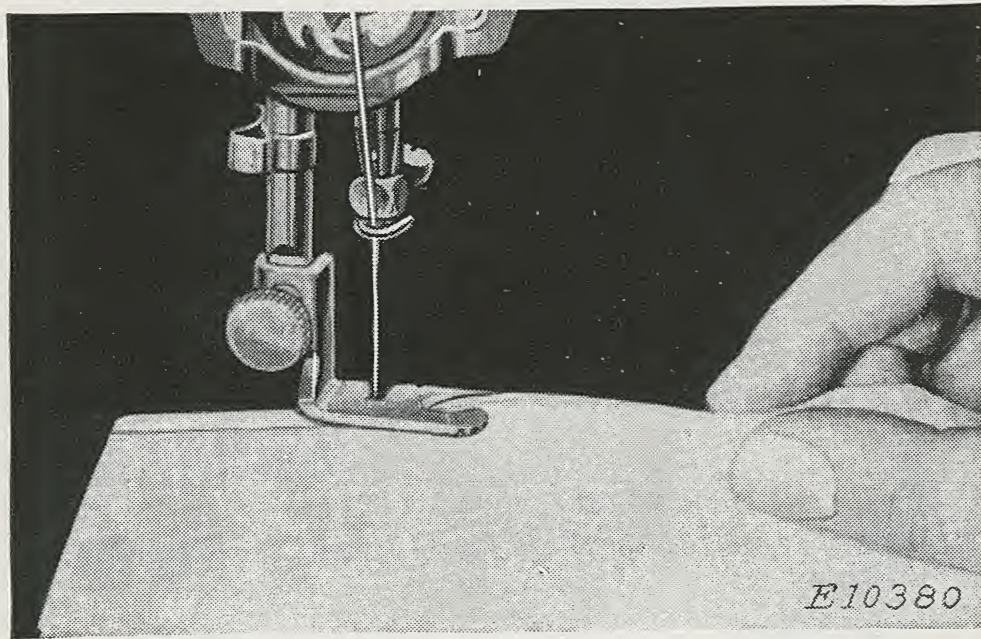

FIG. 22. STARTING A HEM AT THE EDGE
3. Draw the material toward you through the Hemmer, as shown in Fig. 22, at the same time making the second fold at the very edge. Continue to draw the material through the Hemmer until the edge is just under the needle. Place the upper and lower threads together under the Hemmer foot and assist in starting the hem by slightly pulling the threads from the back as the machine is run.